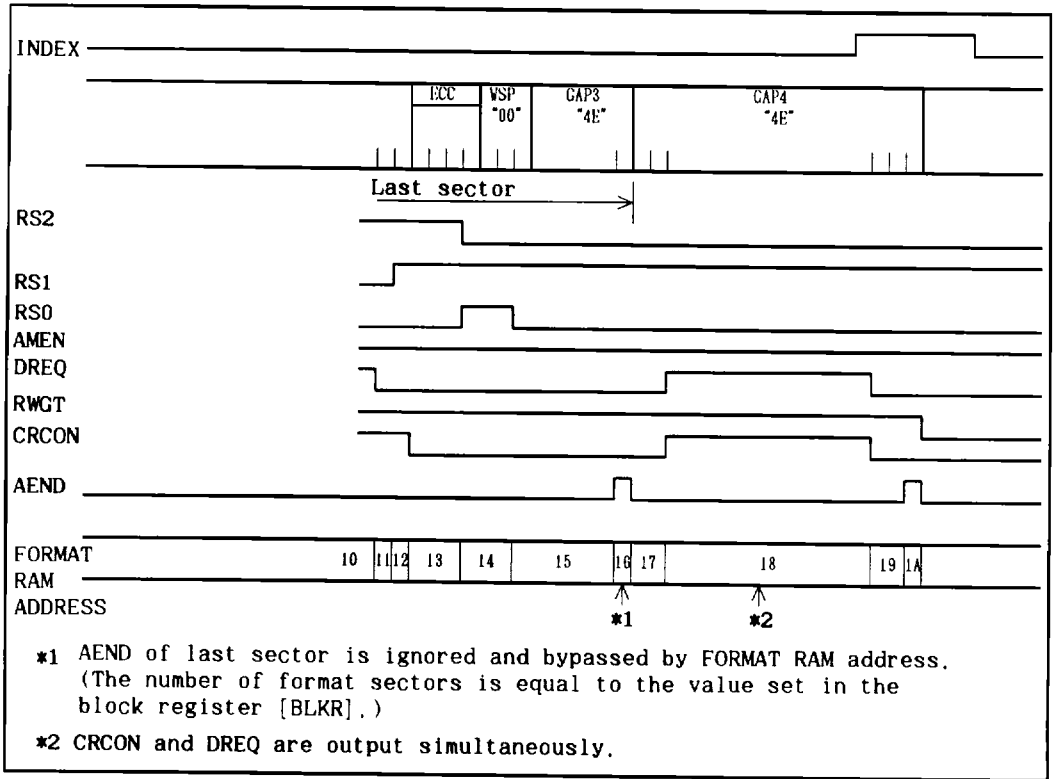

Fig. 5.4.3C Format 2
- ADR17 : At the final sector defined by [BLKR], the AEND activation is ignored and the pointer to Format RAM is progress to next step 17. (in return for setting the value [FTADR]) see Fig.5.4.3C.